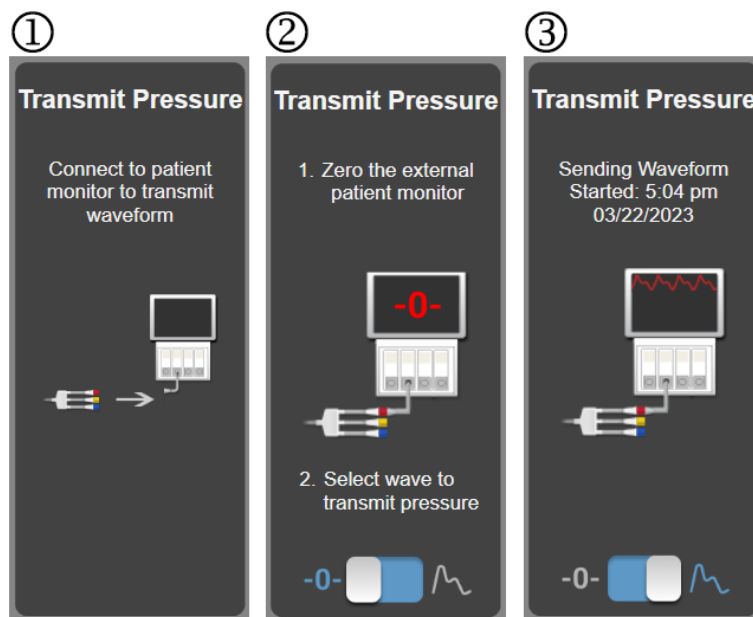

Figure 9-14: Transmit arterial pressure waveform to patient monitor
4. Connect the arterial pressure (AP, red, (3)) pressure signal plug into a compatible patient monitor. Ensure that the selected connector is fully engaged. Refer to the patient monitor instructions for use.
5. Zero patient monitor and confirm 0 mmHg is displayed. See (2) in Figure 9-14 on page 120. Refer to the patient monitor instructions for use.
6. Toggle to the **Transmit Waveform** icon  to begin pressure signal output to the patient monitor. See (3) in Figure 9-14 on page 120.
7. A "**Sending Waveform Started:**" message with the timestamp is displayed when the live waveform is being transmitted to the connected patient monitor. See (3) in Figure 9-14 on page 120.